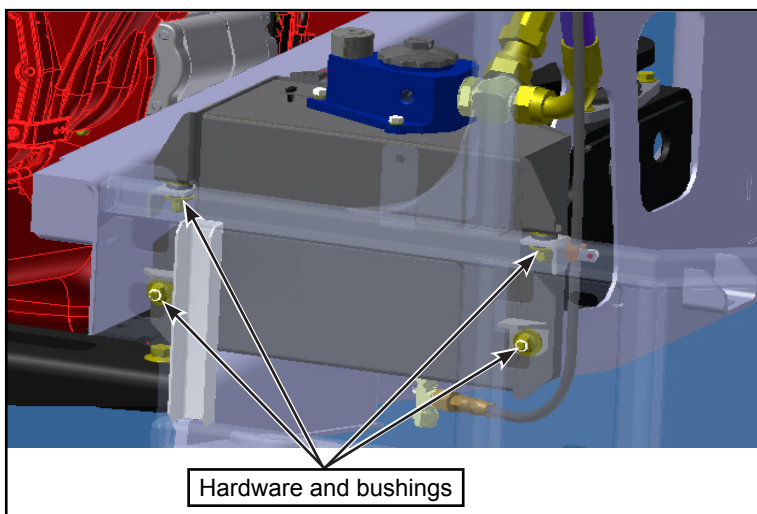

Figure 11 - Remove Parts
- 1.9. Remove hardware and bushings holding the tank to the structure. Discard bushings and nuts only. See Figure 11.